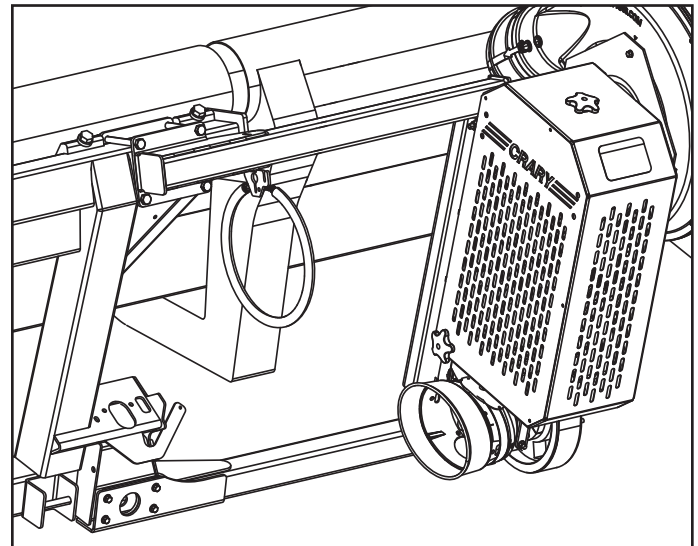

Figure 15: Top & Bottom Tube Supports
- 9. Attach the PTO holder (8) to the top tube (2), (Figure 15 and Figure 18).